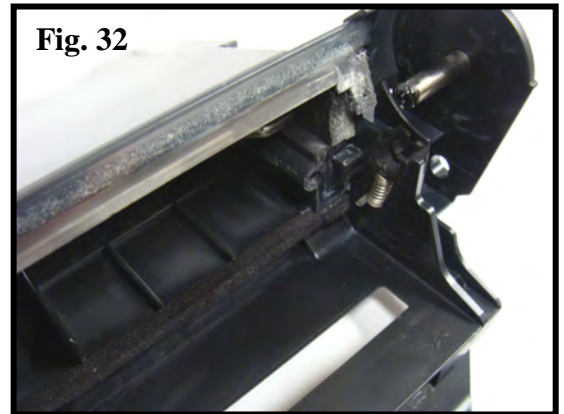

Fig. 32
32. Clean the drum axle and PCR saddle with alcohol. Apply a small amount of conductive grease to both (Fig. 32).